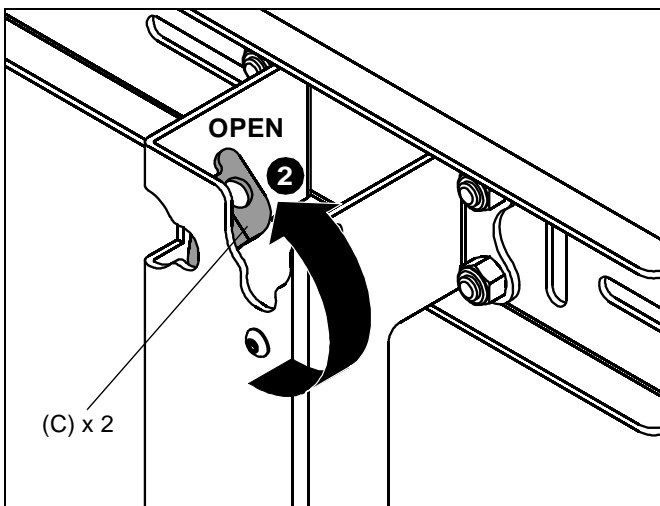

Figure 10
2. Move two locking flags (C) on wall mount (A) to the OPEN position. (See Figure 10)